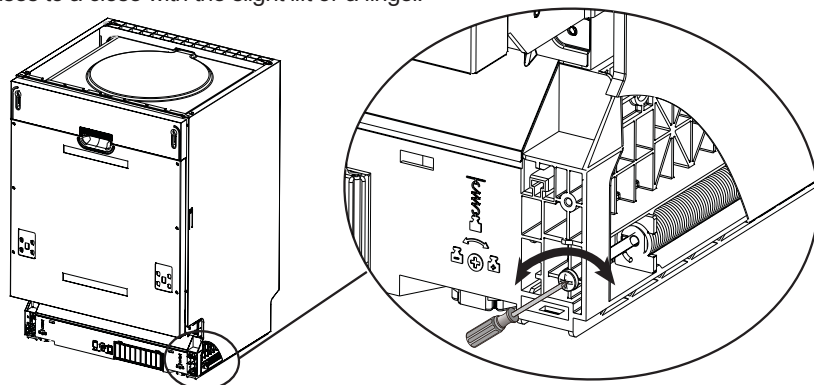

Figure 5 - Tension adjustment of the door spring
- The door springs are set at the factory to the proper tension for the outer door. If aesthetic wooden panels are installed, you will have to adjust the door spring tension. Rotate the adjusting panel to drive the adjustor to strain or relax the steel cable (see figure 5).